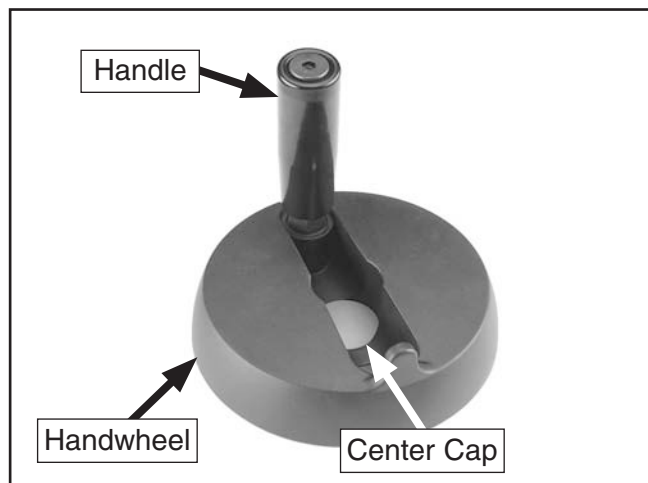

Figure 18. Handwheel assembly.
12. Screw each handle into a handwheel and tighten the nut against the wheel. This nut acts as a lock nut and a spacer. Insert a plastic center cap into the center of each handwheel (**Figure 18**).